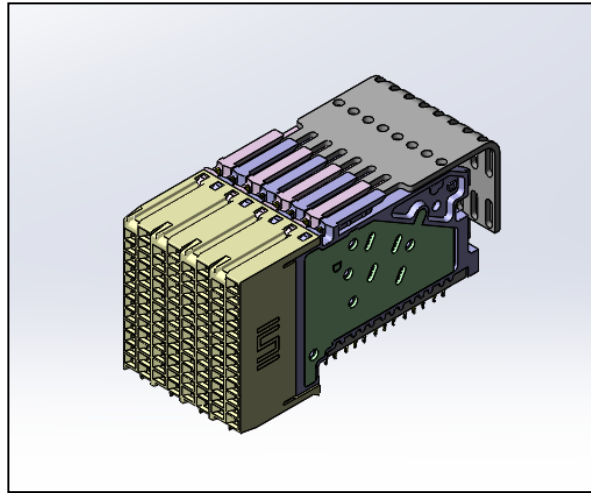

FIGURE 5
1. Place the stiffener onto the connector, and align the stiffener slots with plastic tabs on the wafers (**Figure 5**), ensuring stiffener is not overhanging the plastic on either side.